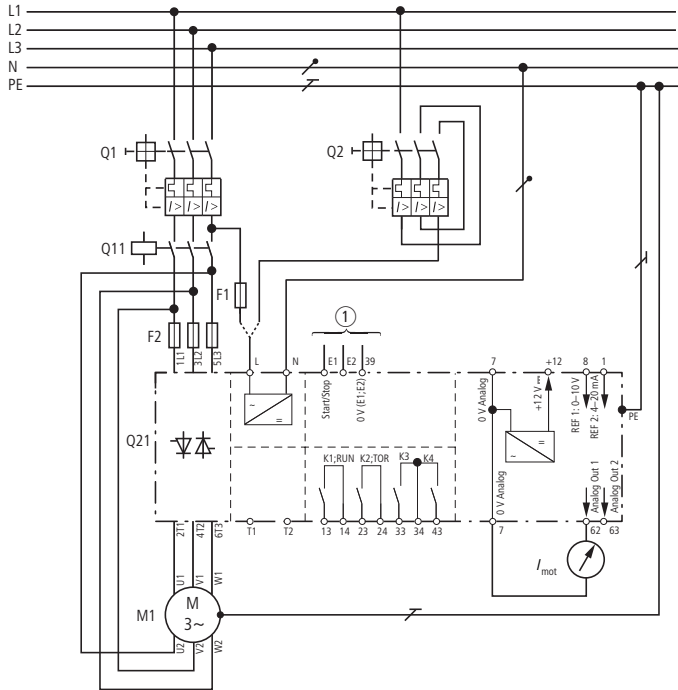

Figure 22: DM4-340 In-delta
- Caution, when wiring acc. to Figure 22, page 51, the following terminal combinations are permissible on the motor, all other combinations will cause damage on the DM4 soft starter or on the motor or plant.